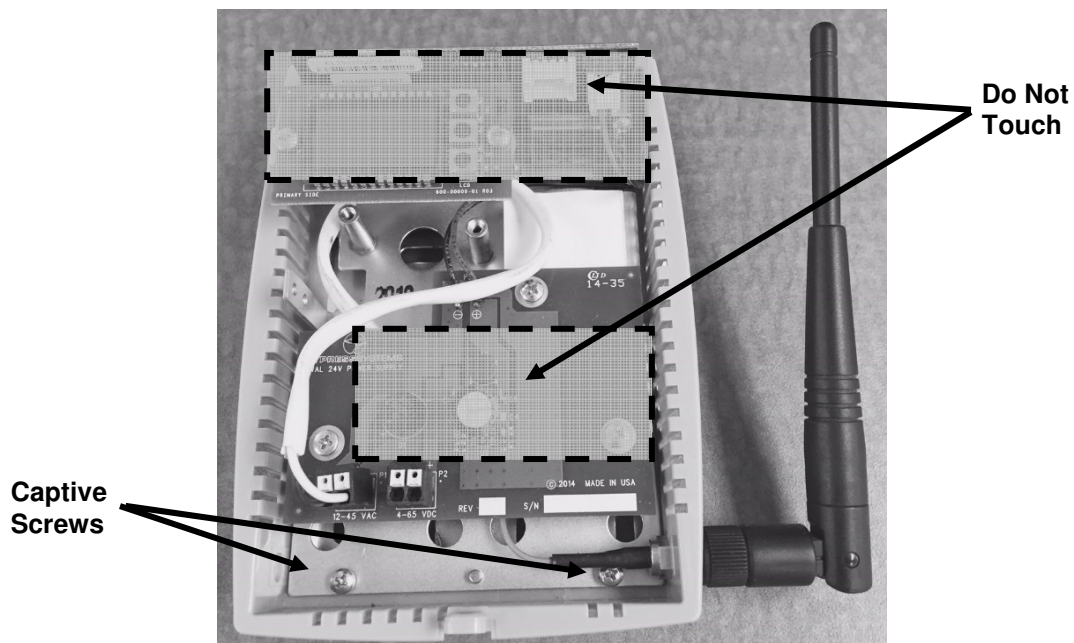

Figure 3. Handling the RPT
- The RPT contains ESD sensitive circuit cards and components, shown in Figure 3.